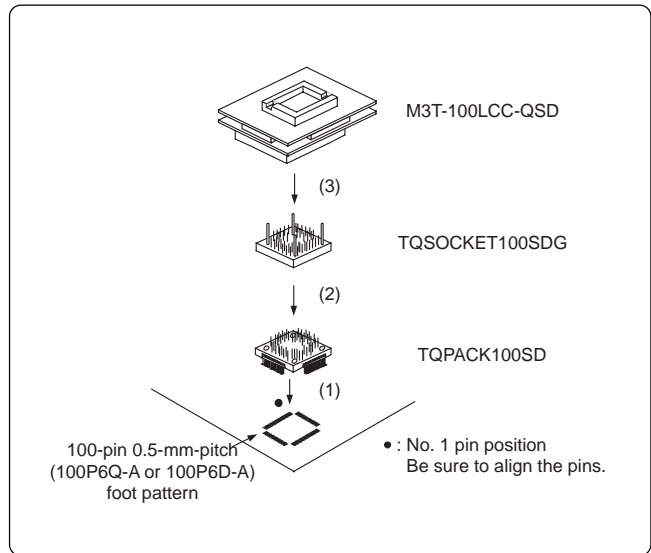

Figure 3 Connecting procedure
5. Connection Procedure (See Figure 3)